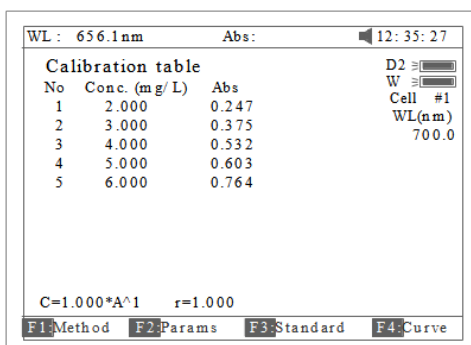

Fig 33
3.3.3 Pull the first sample cuvette of known concentration into the light path, Press the key 【START】 to get values of standard curve one by one (Fig 33).
In Fig 33 press **【Load】** and then press **【^】** or **【v】** to select the file with type *****.fit**. At last press **【ENTER】** TO confirm.